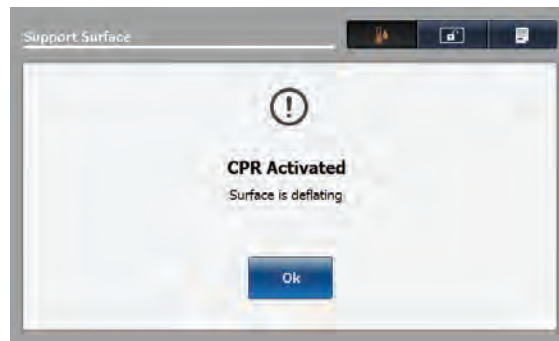

Figure 1-69: CPR Activated — Surface is deflating
- After you activate the CPR straps or CPR release pedal the screen displays (Figure 1-69 on page 1-72).